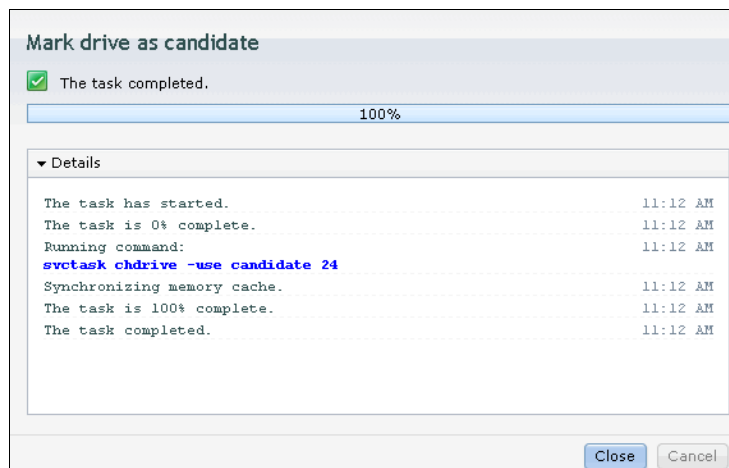

Figure 9-8 Drive configuration output
4. The IBM Storwize V5000 configures the newly detected drive and changes its status to Candidate after the task is completed, as shown in Figure 9-8. Click **Close** to start the SSD configuration.